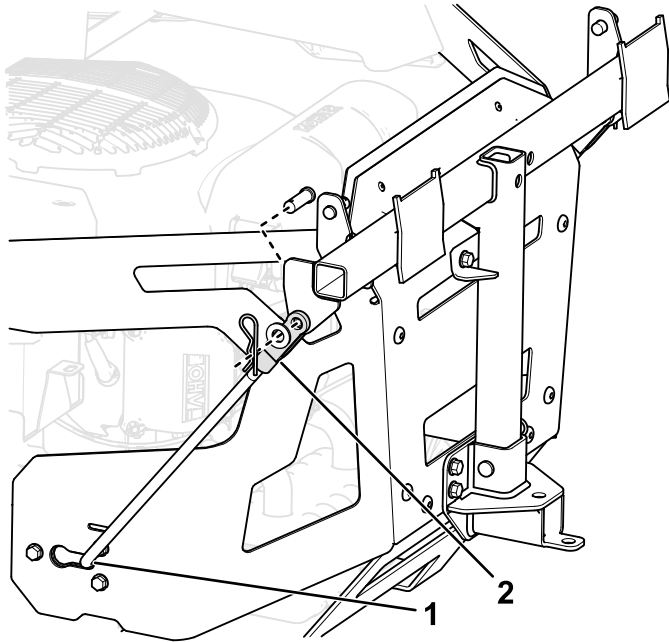

Figure 9
- Install the bent, flared end of a rod into the keyed slot in the side of the machine frame, and move the rod rearward to seat it in the frame (Figure 9).
- Secure the ends of the rods to the bagger frame as shown in Figure 9 and secure the end of each rod with a clevis pin and a hairpin.